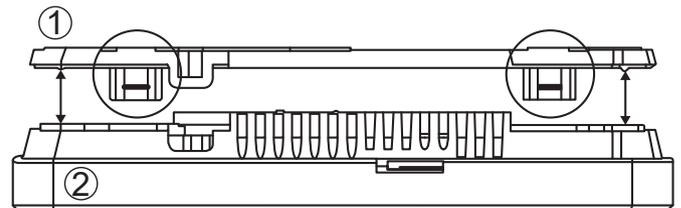

Figure 3-2: Touchscreen display & back plate
1. Detach the mounting plate from the back of the touchscreen display. The plate is attached to the touchscreen with latches. Use a flat screwdriver to detach the plate. (Refer Figure 3-2)